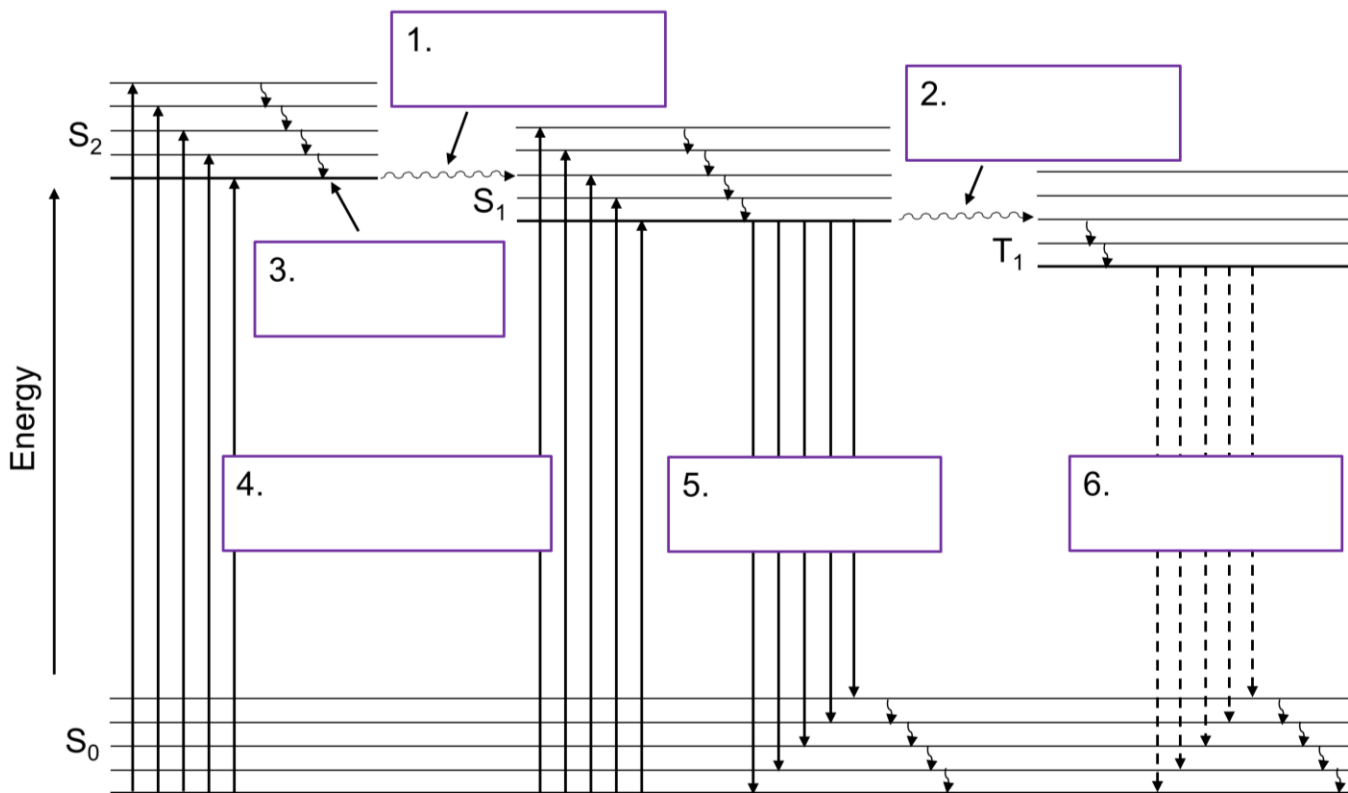

Figure 1. Jablonski diagram to be labeled with the physical processes from Table 1.
- **Facilitated Discussion Pauses:** Pause after the percent transmittance and absorbance questions. Ask: “If absorbance doubles, why does percent transmittance not simply get cut in half?” Students often need help seeing that absorbance and transmittance are related logarithmically, not linearly. I also pause around the Jablonski diagram and spectra to help students connect Figure 1 and Figure 2. Have them compare the size of the energy arrows to where absorbance, fluorescence, and phosphorescence appear in the spectrum.
8. Consider Figure 2, representing spectra for absorbance, fluorescence, and phosphorescence and Figure 1, representing the energy transitions needed for different physical processes represented in a Jablonski diagram. What do you notice about the wavelengths of light from the three spectra associated with absorbance, fluorescence, and phosphorescence in Figure 2? How do these wavelengths correspond to the associated Jablonski diagram (Figure 1)?
Figures 1 and 2 highlight the typical flow path of light in spectrophotometers, starting from the light source, and then to the monochromator, sample, detector, and display. This worksheet will work through the components of typical spectrophotometers.
Figure 1. Schematic diagram of a fixed-wavelength, single-beam spectrophotometer. The photographic inset shows a typical instrument. The shutter remains closed until the sample or blank is placed in the sample compartment. The analyst manually selects the wavelength by adjusting the wavelength dial. From Figure 10.3.2 in David Harvey, *Analytical Chemistry 2.1*, licensed under CC BY-NC-SA 4.0.
5. Why doesn't all of the light from the source reach the sample in Figure 1? Where does it go?